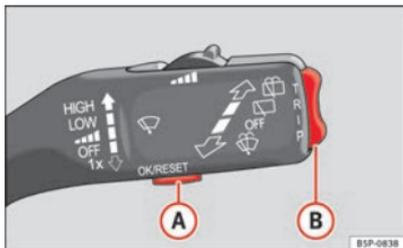
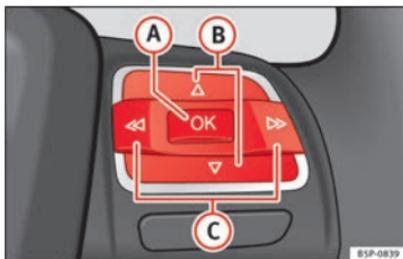

Fig. 41 Windscreen wiper lever: control buttons.
Fig. 42 Controls on the steering wheel: control buttons.
- To access the “Configuration” menu, press button **(C)** ⇒ Fig. 42 until the menu is displayed. Now you are in this menu.
- To change from one memory to another, briefly press button **(A)** ⇒ Fig. 41 ⇒ page 51 on the windscreen wiper lever or the **(OK)** button on the multifunction steering wheel ⇒ Fig. 42 ⇒ page 51 while the ignition is switched on.
The following data can be viewed on the multifunction display using the rocker switch **(B)** ⇒ Fig. 41 ⇒ page 51 on the windscreen wiper lever or by pressing button **(Δ)** or **(▽)** ⇒ Fig. 42 on the multifunction steering wheel*.